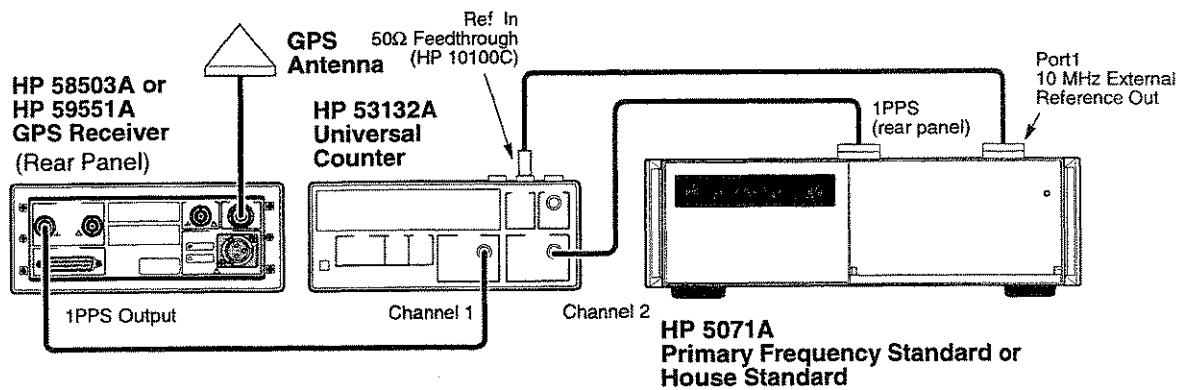

Figure 6. 10 MHz Frequency Accuracy and 1 PPS Jitter Test Setup (HP 58503A GPS Receiver shown)
- 3 Connect the 10 MHz reference output from the reference 1 PPS source (HP 5071A or another stable, traceable house standard) to the rear-panel **Ref In** of the Universal Counter, as shown in Figure 6, to provide an external timebase for the Counter.